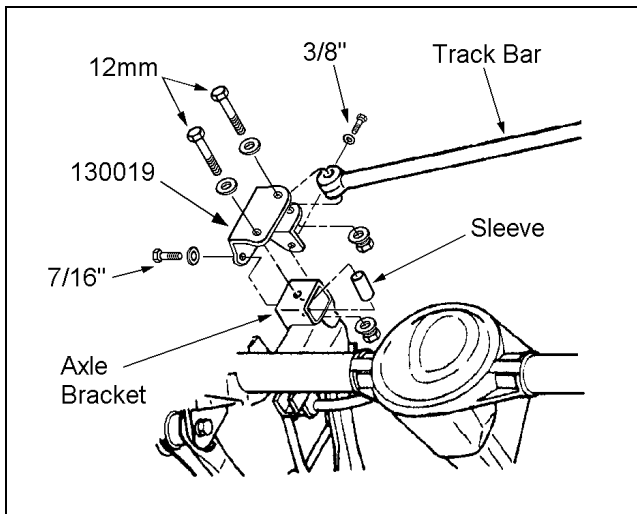

Figure 13
- 1)  Place track bar bracket 130019 on top of the axle bracket as shown in figure 13. To properly align the bracket, insert a 12mm bolt from kit 860072 through both brackets.
- 3)  Reinstall the track bar bracket and attach it to the axle with the sleeve and hardware from kit 860072. See Figure 13. Tighten to specification.